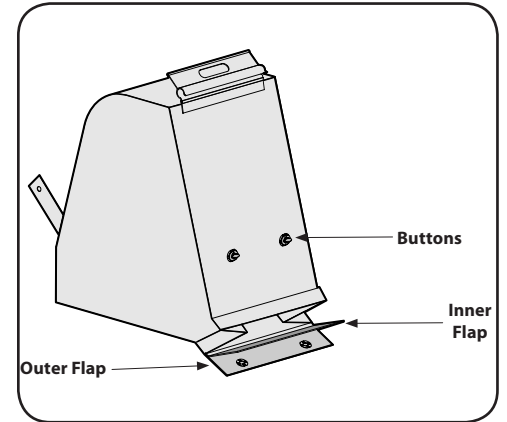

Figure 4-3
5. Twist the two buttons on the back of the bag to unlock and empty contents. See Figure 4-3. Hold bag handle and bag clip while emptying the contents.
7. Fold outer flap over inner flap and insert buttons on the bag through metal outlets. See Figure 4-3.